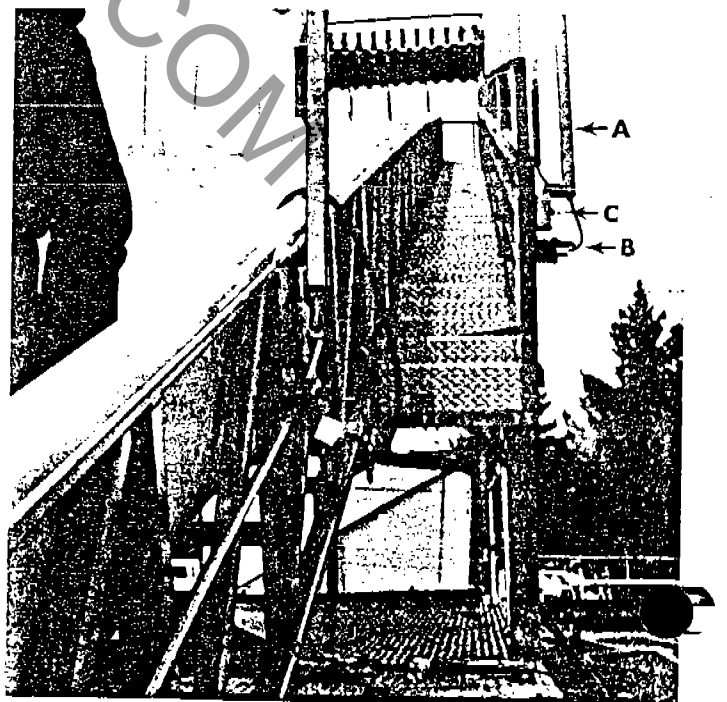

Fig. 27
- d. Plug in the lights (b) and tighten the set screws (c). (Fig. 27 b and c)